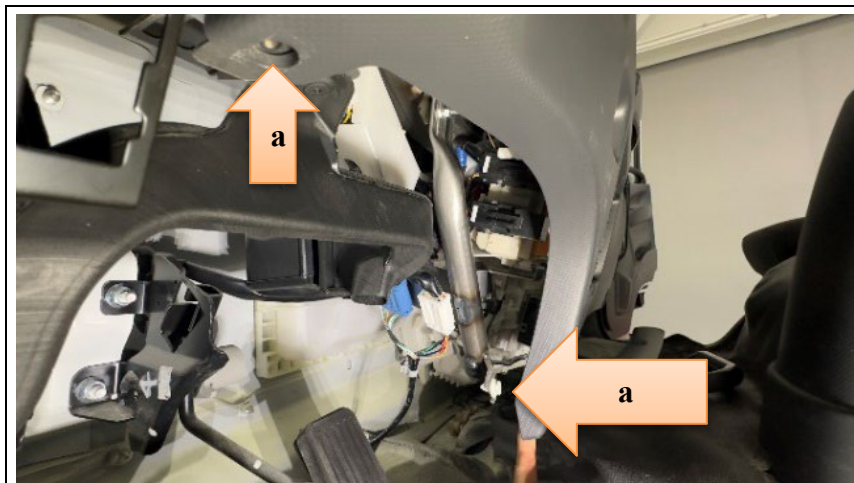

Figure 56
56. Remove the two (2) clips shown in Figure 56 from the instrument panel.